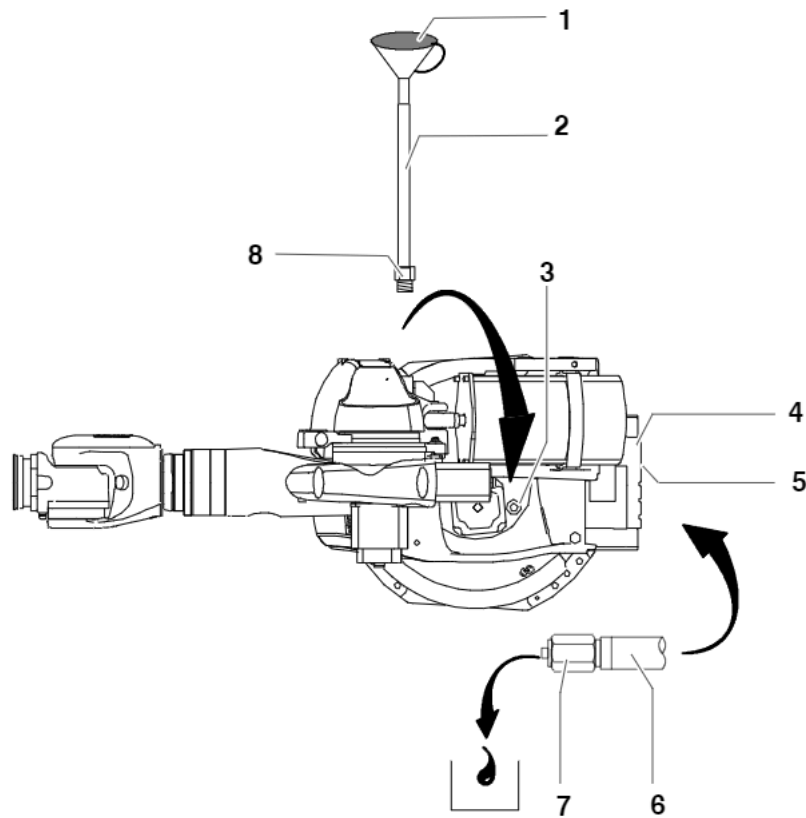

Fig. 2 Changing the oil on axis 1
- (1) Remove four M8x12 Allen screws (Fig. 2/4) including lock washers, take off cover (5) and pull out drain hose (6).
- (2) Unscrew sealing cap (7) on drain hose (6) and place a suitable receptacle under the drain hole.
- (3) Remove screw plug (3) and catch oil as it drains out.